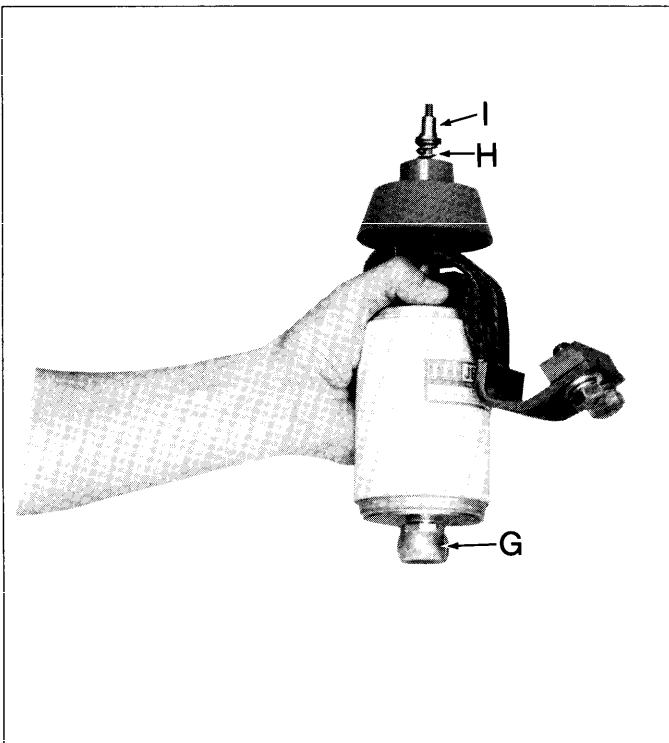

Figure 12. Interrupter alignment ball, contact pressure spring and guide bearing.
6. Remove the alignment ball, contact pressure spring, and guide bearing (Items G, H, and I, Figure 12) from the interrupter. Assemble parts on new interrupter assembly.